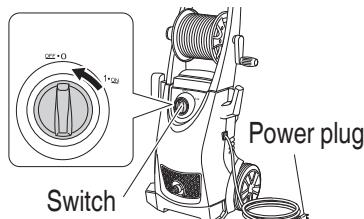

Fig. 5
1. Check to make sure the switch is at the "OFF" position (Fig. 5)